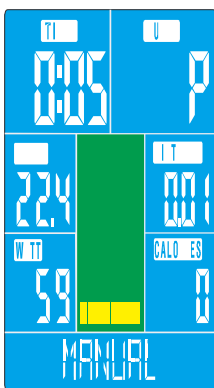
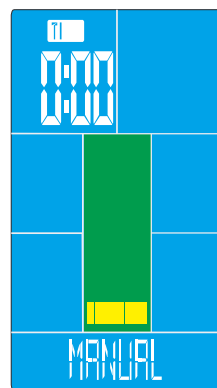

FIGURE 4
FIGURE 5
- If choose MANUAL, press the MODE button to enter MANUAL function. If press START button, then it starts counting sport directly, all the calculated values will be counted up (as Figure 4). Or you can press UP and DOWN to adjust LOAD level; If press MODE to set TIME (Figure5), setting sequence is TIME -> DIST -> CAL -> PULSE (as Figure 5~8) which can be set cyclically. After setting, press START button to start motion state.